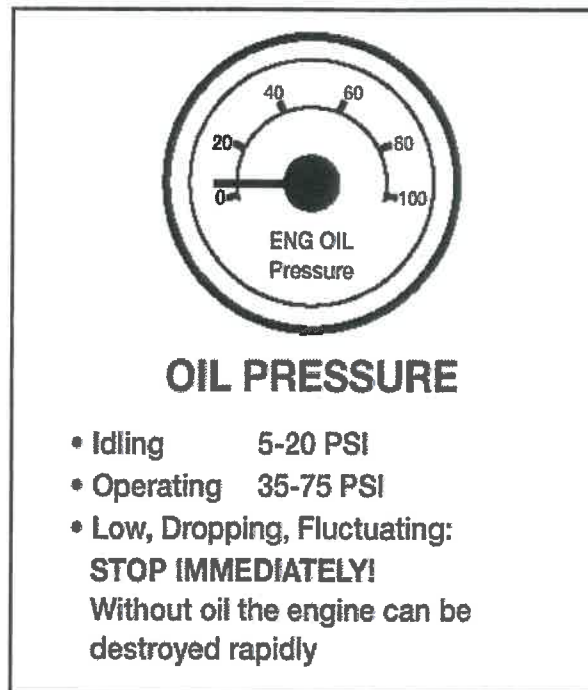

Figure 2.5
- Oil pressure. Should come up to normal within seconds after engine is started. *See Figure 2.5*